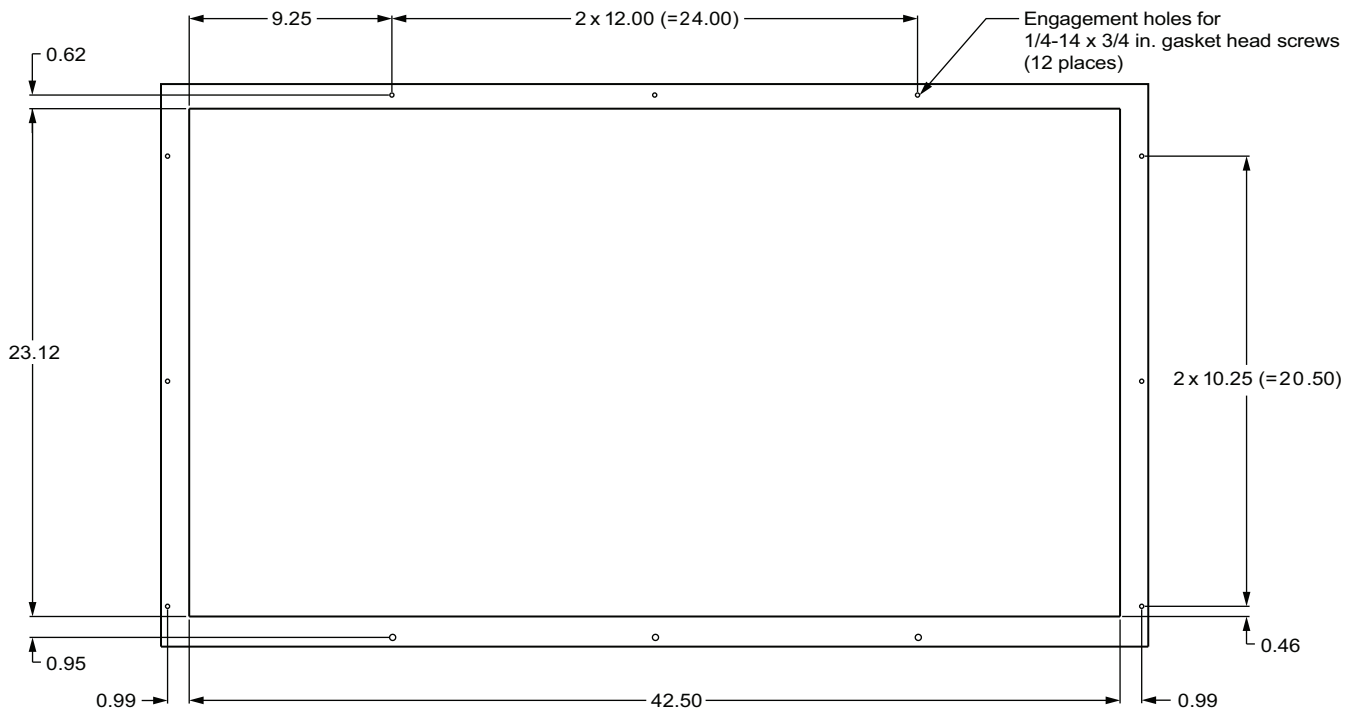

Fig. 11 — Horizontal Discharge Mounting Opening
size begin at least 5 ft away from the back of the outside air hood. Provide a 42.5 in. W x 23.2 in. H opening in the side of the return air duct, as shown in Fig. 11.
2. Provide engagement holes (12) for 1/4-14 x 3/4 in. gasket head screws (AL31AZ308) around the opening as shown in Fig. 11.